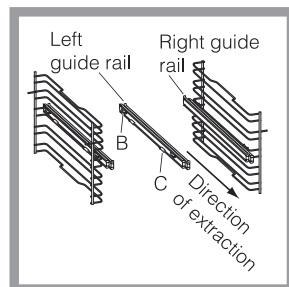
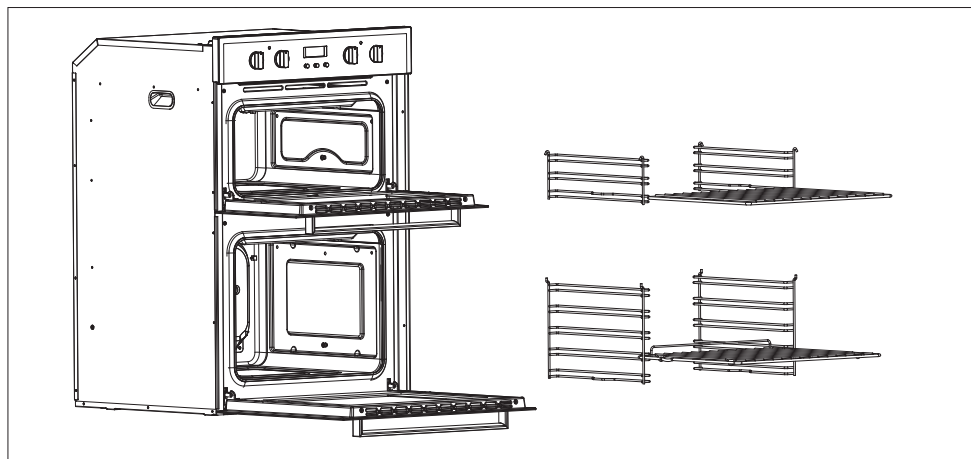

Figure 1.
Figure 2.
- Remove the side racks (see Fig.1 and Fig.2)
Pay attention to the direction in which the runner is to be extracted, position joint 'B' and joint 'C' on the frame (see Fig.1).
- Finally, re-fit the side racks (See Fig.1 and Fig.2)